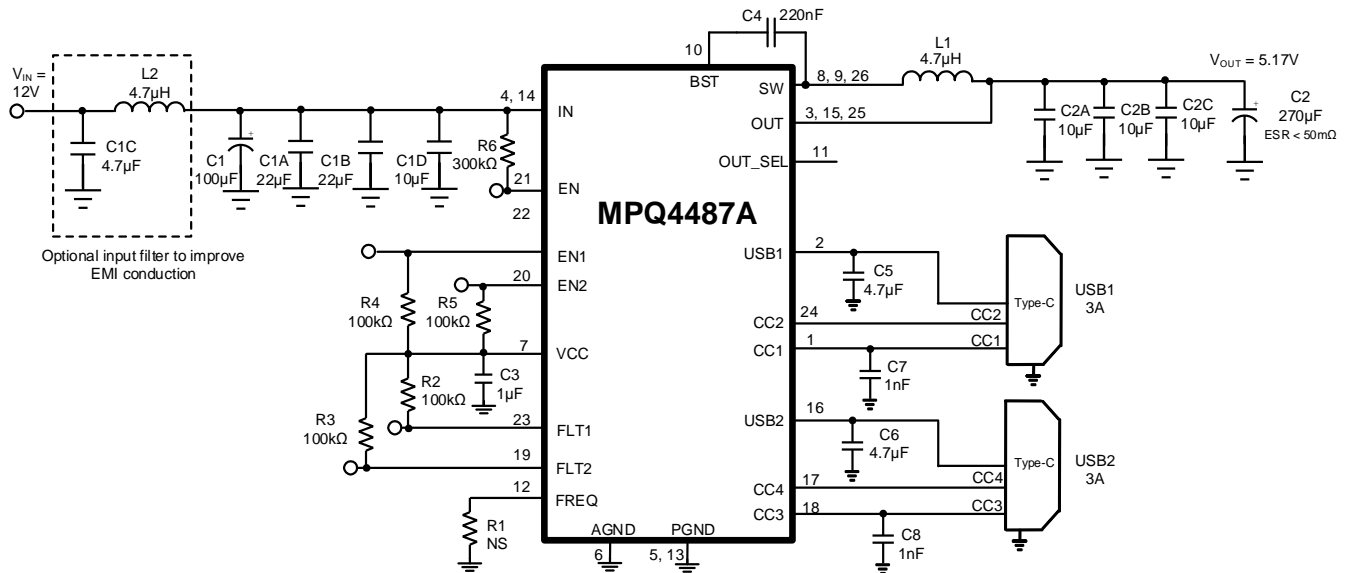
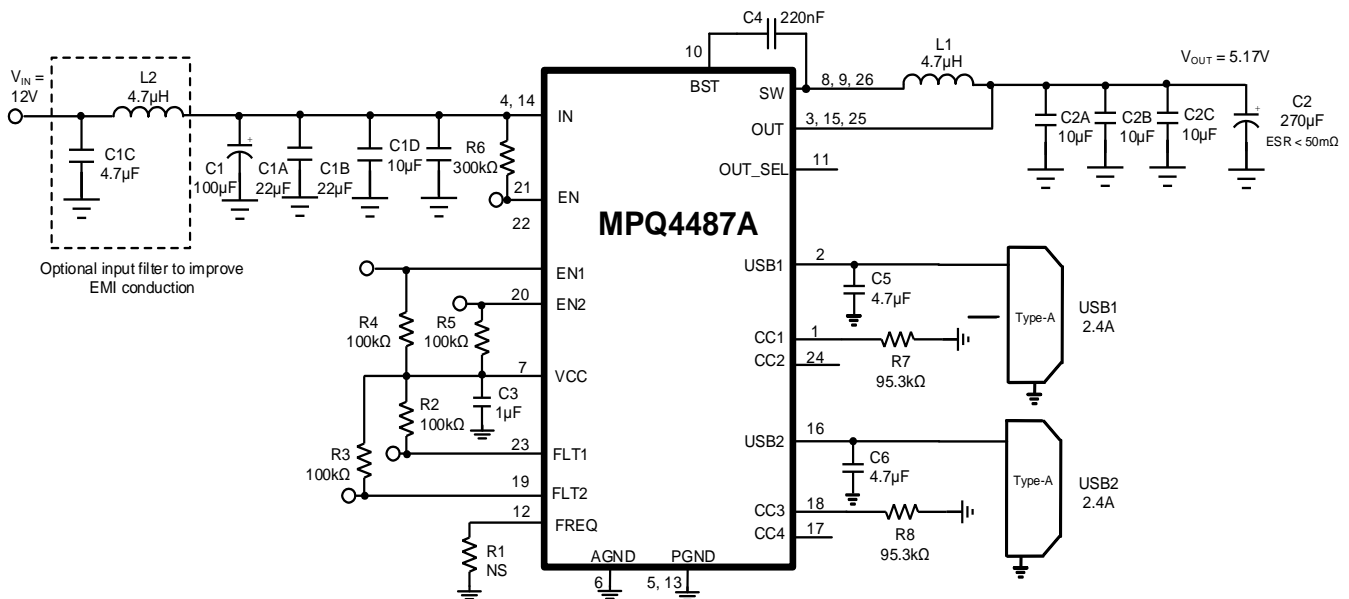

Figure 12: Dual USB Type-C 5V/3A DFP Ports (14)
Figure 13: Dual USB Type-A 5V/2.4A Ports (14)
- 13) The recommended layout is based on the Typical Application Circuits (see Figure 12, Figure 13, and Figure 14 on page 25 and page 26).